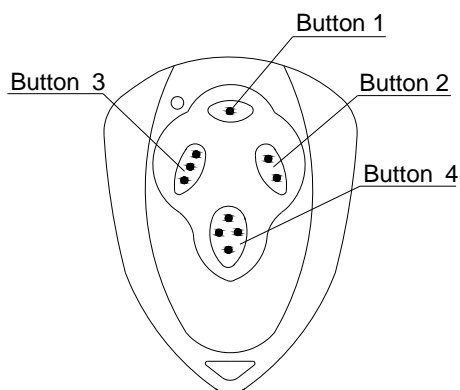

Fig.10 Remote control
- Remote control: The remote control works in a single channel mode. It has four buttons. See Fig.10 Remote control. The function of button 1, button 2 and button3 are the same. With each press of the remote control button, which has been programmed, the gate will close, stop, open or stop cycle. Button 4 is available to set pedestrian mode. You can program/learn button 1, button 2, button 3 individually. You also can program/learn two buttons or three buttons together, but you need repeat the program/learn process if you want to use more than one button.